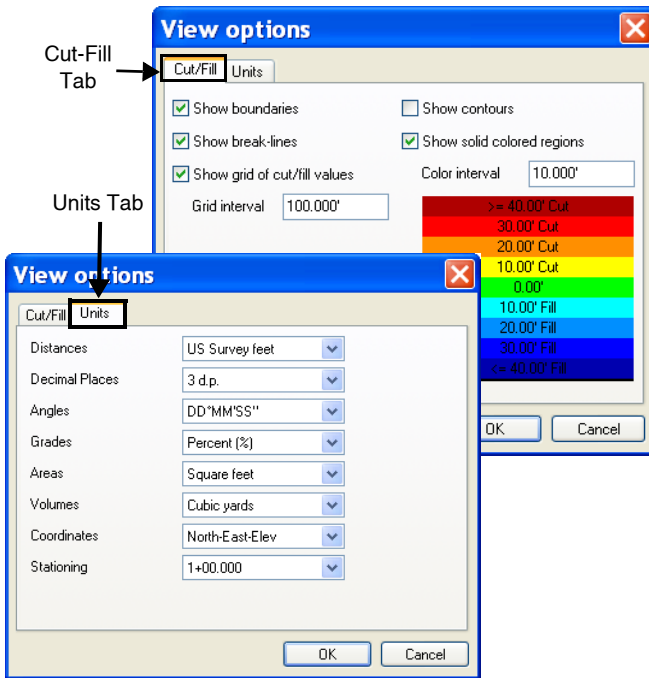

Figure 9-10. Set Cut/fill View Options
2. On the *Cut/fill* tab, select and enter the following information (Figure 9-10 on page 9-9):